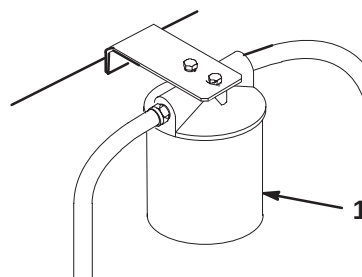

Figure 41
3. Place a drain pan under filter, remove the old filter and wipe the filter adapter gasket surface clean (Fig. 41).